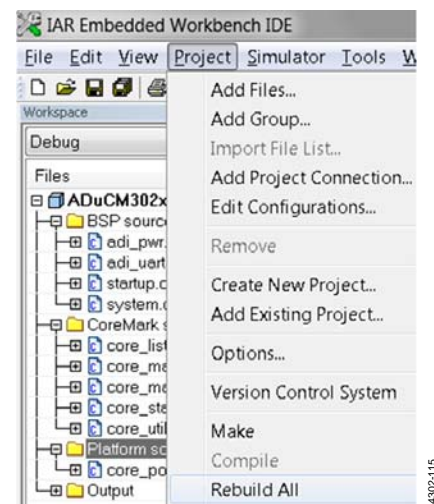

Figure 15. Build the Project
- Click **Project**, and then click **Rebuild All** (as shown in Figure 15).